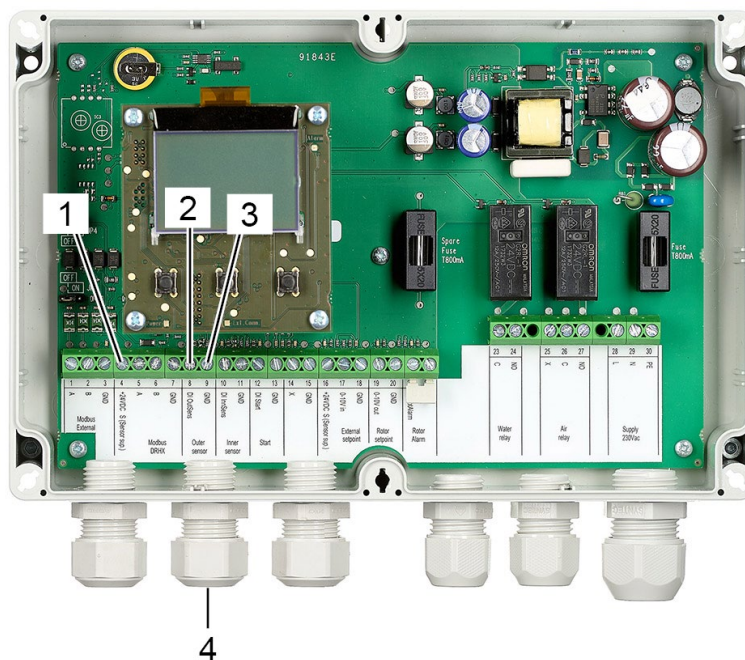

Fig. 85: Cable socket and terminals rotor circumference proximity sensor
6. Insert the wires of the rotor circumference proximity sensor connection cable through the cable socket (Fig. 85/4).
7. Connect the brown power supply wire to terminal 4 (Fig. 85/1, +24 VDC S (Sensor sup.)) of the rotor cleaner control.
8. Connect the black signal wire to terminal 8 (Fig. 85/2, DI OutSens) of the rotor cleaner control.
9. Connect the blue ground connection wire to terminal 9 (Fig. 85/3, GND) of the rotor cleaner control.